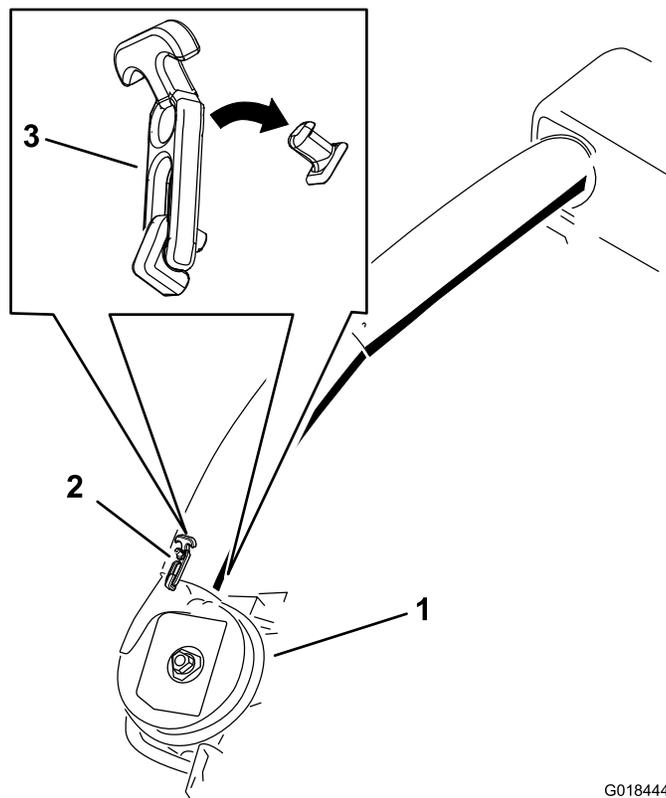

Figure 28
6. Use both latches to attach the lower tube to the blower assembly (Figure 28).
21. Use both latches to attach the lower tube to the blower assembly (Figure 28).